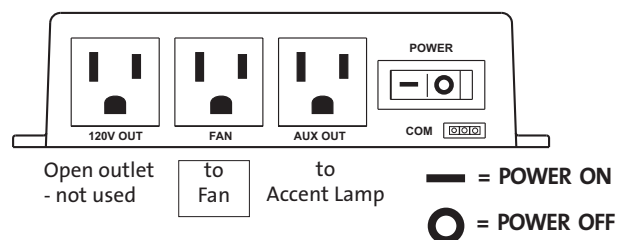

Figure 6.18. Fan Control Module power switch.
1. **Turn the Fan Control Module rocker switch to the ON position**, fig. 6.18. It is located in the right side compartment, under the Accent Lamp control.